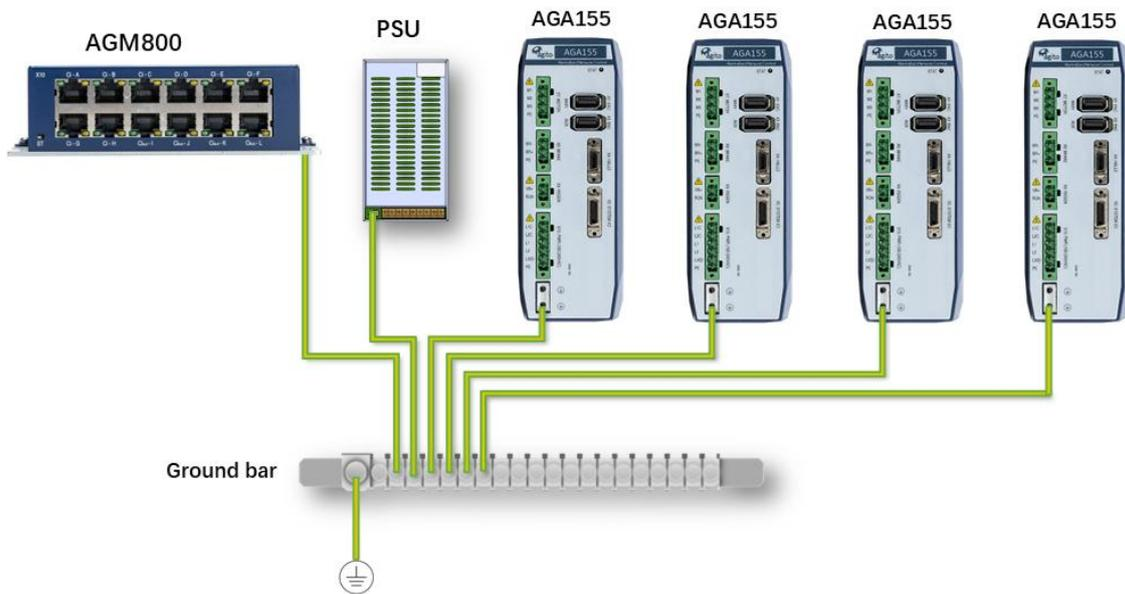

Figure 7. System Grounding
- The AGA155 must be connected to protective earth (PE) and connected to the building's ground. PE is protected with an earth-leakage circuit breaker (ELCB); hence it is safe to touch. Refer to Figure 7.